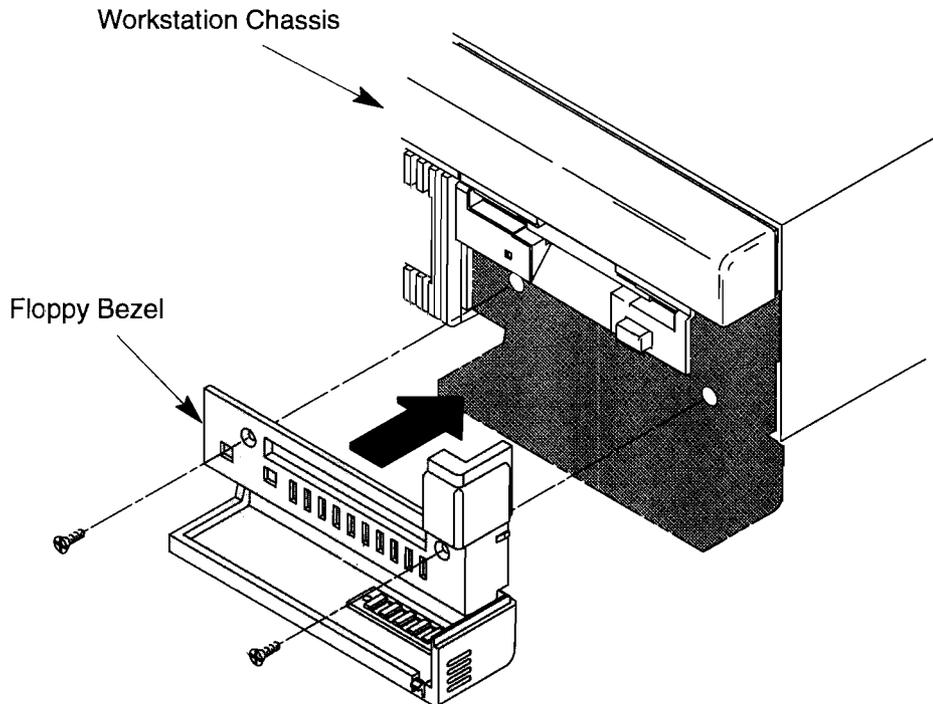

Figure B-23. Mounting the Floppy Bezel
4. Mount the floppy bezel to the front panel of the workstation (see Figure B-23). Use a small Pozidrive screwdriver and the two screws you set aside when you removed the original bezel in Step 1 of "Remove the Disk Tray Assembly."